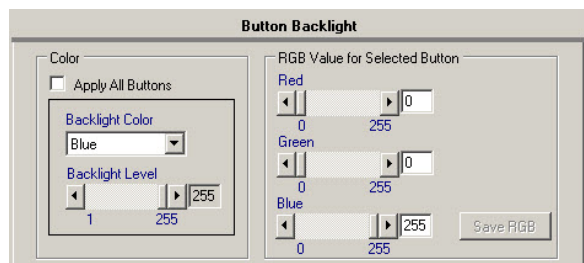

FIG. 45 Button Backlight options
2. Click **Button Backlight**. The Button Backlight options appear (FIG. 45).